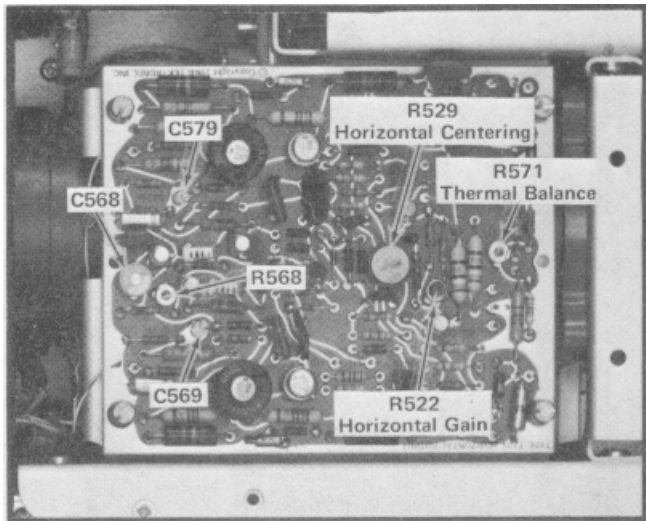

Fig. 5-8. Location of Horizontal Amplifier adjustments (Horizontal Output board).
k. ADJUST-Thermal Balance adjustment R571 (see Fig. 5-8) for minimum movement of the displayed markers or readout characters.
f. ADJUST-Horizontal Centering adjustment R529 (see Fig. 5-8) to position the trace to the vertical center line. If necessary, adjust for the best compromise in all positions of the HORIZONTAL MODE switch.
d. ADJUST-Horizontal Gain adjustment R522 (see Fig. 5-8) for exactly eight divisions of deflection between the second and eighth traces.
f. Visually check the setting of variable capacitors C569 and C579 (see Fig. 5-8). These capacitors control linearity at faster sweep rates, and should normally be adjusted out about one-third of their length. If further adjustment appears necessary due to non-linearity in the faster sweeps, adjust both capacitors equally and in the same direction. Then re-check all high-frequency timing.
j. ADJUST-R568 (see Fig. 5-8) for one marker each division over the center eight divisions.
n. ADJUST-C568 (see Fig. 5-8) for one marker each division over the center eight divisions.